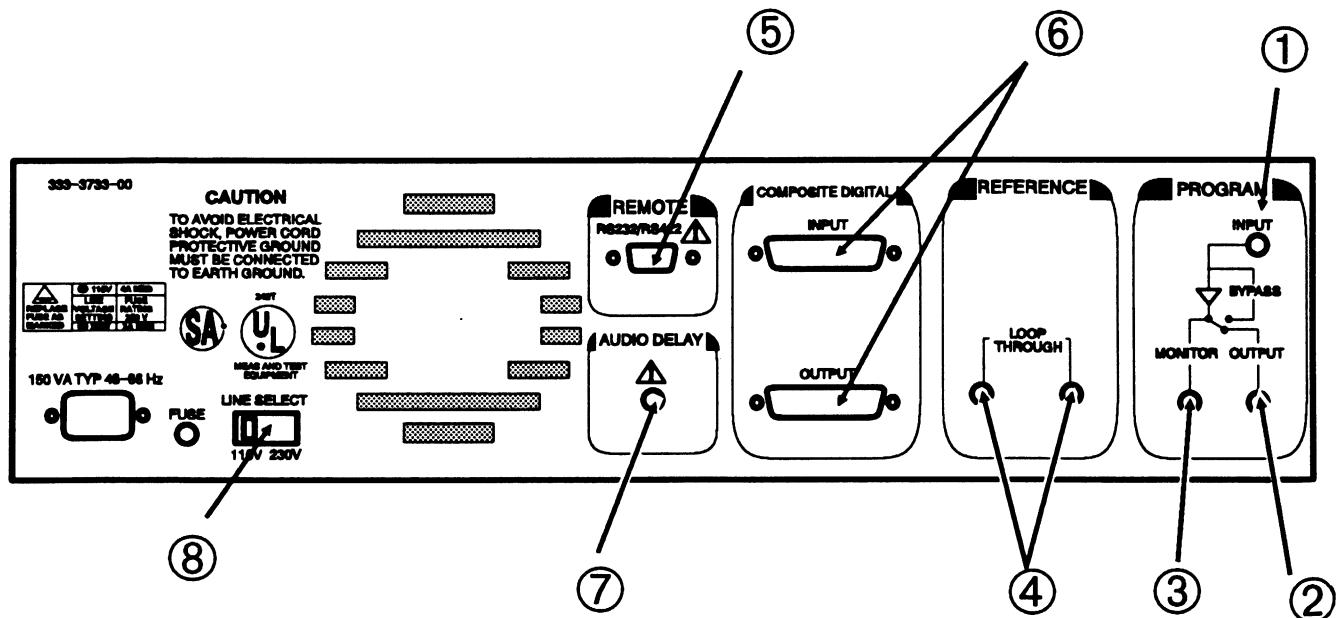

Fig. 1-5. Location of the rear-panel connectors.
Line Voltage Setting Switch — Chooses between 115 and 220 line voltage. See ⑧ on Fig. 1-5 for its location.
CONNECTORS (See Fig. 1-5)